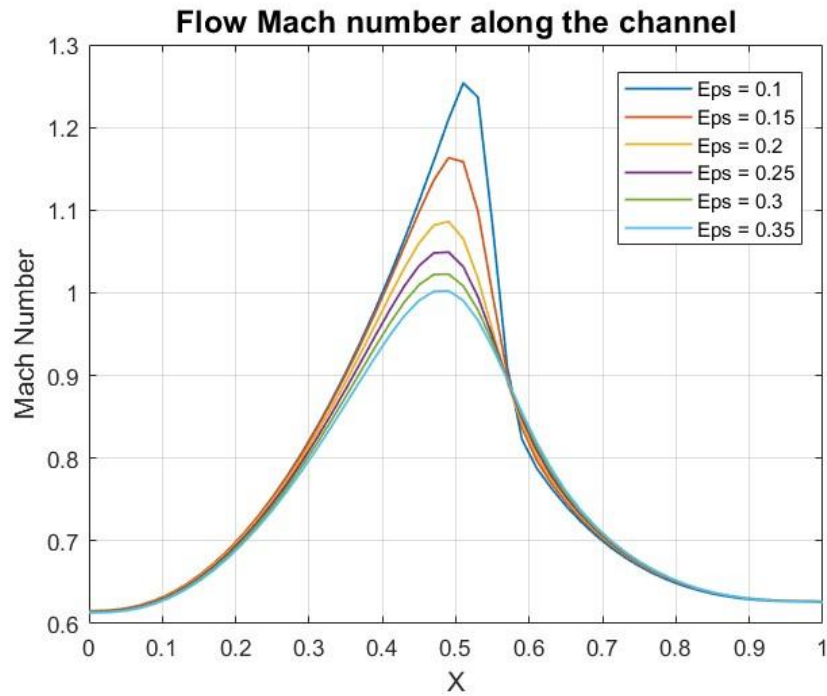

*Fig:4 – Density Residual Plot (CFL = 0.2, $P_{exit} = 0.76 * P_{inlet}$)*
- Fig 4, 5, 6 shows the density residual, Mach number and pressure ratio across the channel, respectively. It can be easily seen in fig 4, that higher epsilon value takes less number of iterations to converge.